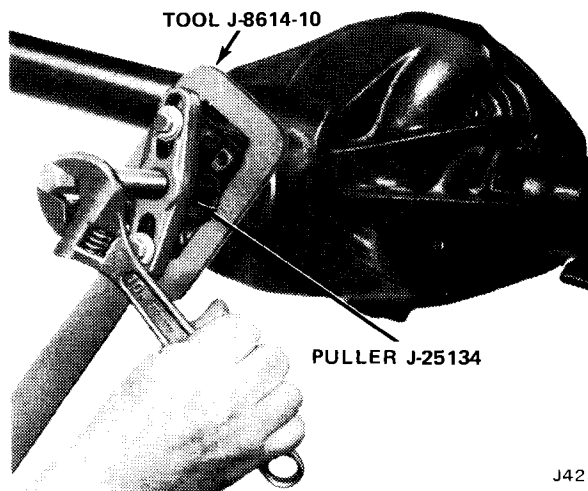

Fig. 10-2 Removing Yoke
- (1) Raise and support vehicle.
- (2) Index propeller shaft to front yoke for assembly reference and disconnect shaft at yoke.
- (3) Remove pinion shaft nut and washer. Remove yoke using Holding Wrench J-8614-10 and Yoke Puller J-25134 (fig. 10-2).